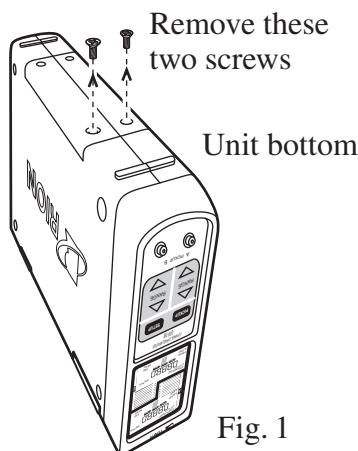

Fig. 1
1. Remove two screws from the cover plates on the bottom of the unit (the two screws that are nearer to the front side). Refer to the left-side illustration (Fig. 1) below.